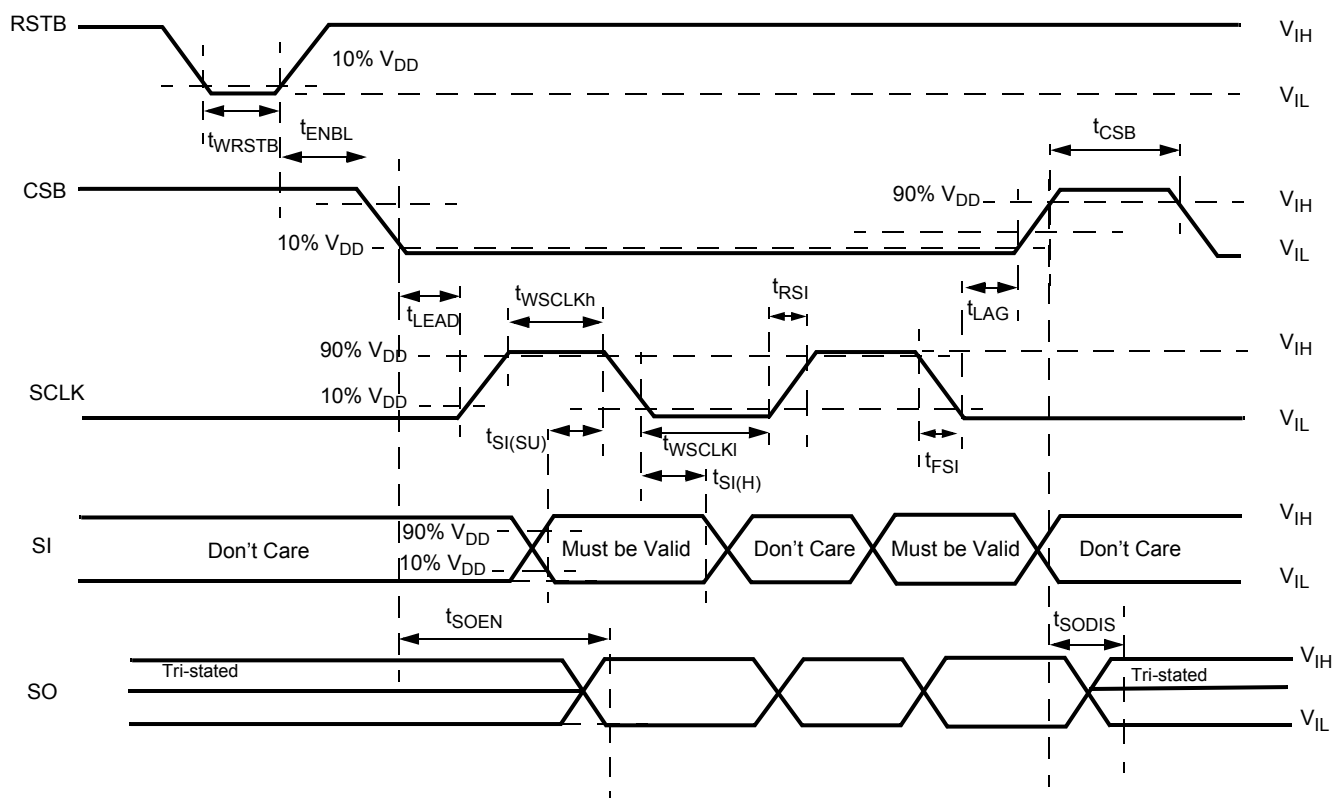
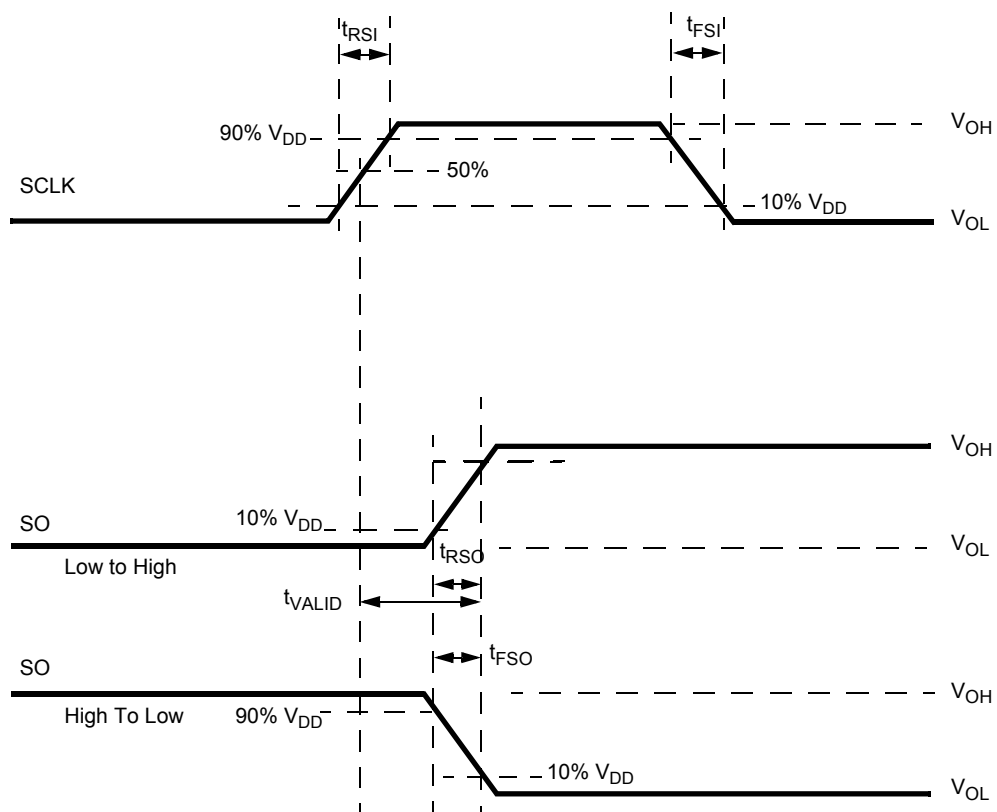

Figure 7. Timing Requirements During SPI Communication
Figure 8. Timing Diagram for Serial Output (SO) Data Communication
Data communication over the SPI port is enabled when the CSB pin is in the logic [0] state. Data from the Input Shift registers are locked in the addressed SI registers on the rising edge of CSB. The device transfers the contents of one of the eight internal registers to the SO register on the falling edge of CSB. The SO output driver is enabled when CSB is logic [0]. CSB should transition from a logic [1] to a logic [0] state only when SCLK is at logic [0] (Figure 7 and Figure 8). CSB is internally pulled up to V_{DD} through I_{UP} .
Serial input (SI) data bits are shifted in at this pin. SI data is read on the falling edge of SCLK. 16-bit data packages are required on the SI pin (see Figure 7), starting with bit D15 (MSB) and ending with D0 (LSB). All the internal device registers are addressed and controlled by a 4-bit address (D9-D12) described in Table 14. Register addresses and function attribution are described in Table 15. The SI pin is internally connected to a pull-down current source, I_{DWN} .